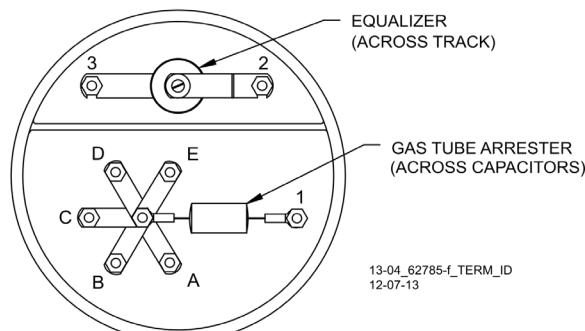

Figure 2: Tuned Joint Coupler, 62785-f
- AREMA binding posts are labeled A through E (see Figure 2).